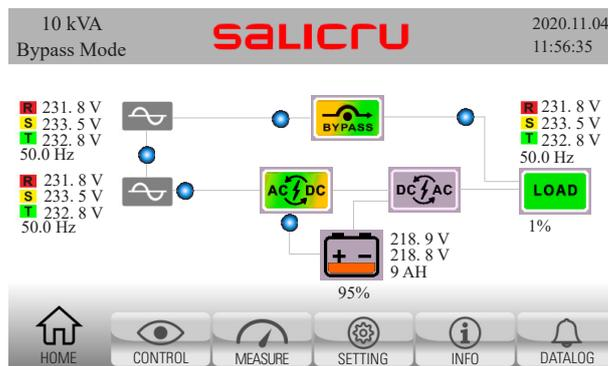

Fig. 35. Main screen in bypass mode. The power flow goes directly from the bypass input to the output, via the static bypass switch.
2. The loads switch to being supplied directly from the static bypass line. Check that the unit's synoptic corresponds to the one in Fig. 35 (unit in bypass mode).
11. The <3A> alarm "maintain is open" disappears. Check that the unit's synoptic corresponds to the one in Fig. 35 (unit in bypass mode).
- b. The UPS switches automatically from standby mode to bypass mode, the loads switch to being supplied directly from the static bypass line. Check that the alarm <OB> "EPO active" disappears. Also check that the unit's synoptic corresponds to the one in Fig. 35 (unit in bypass mode).